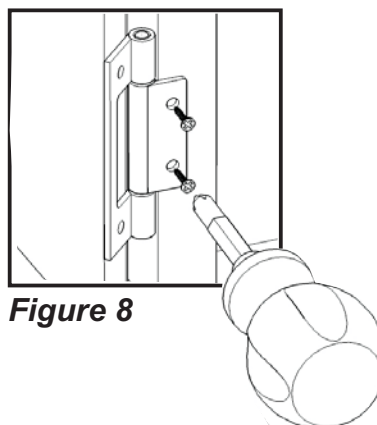

Figure 8
Attach Doors (T) and (U) to the Base unit with Wood Screws for Hinges. (see Figure 8)